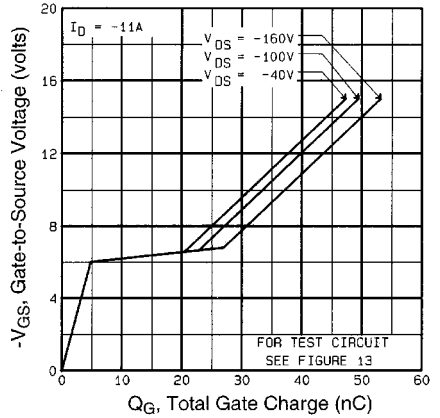

Fig 6. Typical Gate Charge Vs. Gate-to-Source Voltage
| Q _{gd} | Gate-to-Drain ("Miller") Charge | — | — | 27 | | V _{GS} =-10V See Fig. 6 and 13 ④ |